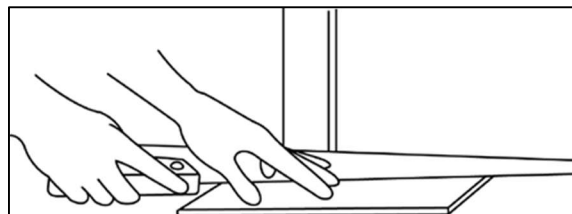

Figure 4
- Undercut door casings and jambs. Remove any existing base, shoe moulding or doorway thresholds. These items can be replaced after installation. All door casings and jambs should be undercut to avoid difficult scribe cuts (**Figure 4**).
- Undercut door casings and jambs. Remove any existing base, shoe molding or doorway thresholds. These items can be replaced after installation. All door casings and jambs should be undercut to avoid difficult scribe cuts (See **Figure 4** on page 8).